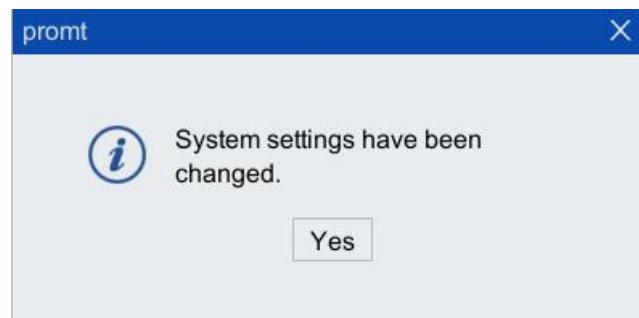

Figure 8-30 "System settings have been changed" dialog box
- Step2. After the setting is completed, click the <Apply> button, and the "System settings have been changed" "Prompt" box as shown in Figure 8-30 will pop up to complete the setting; if you click the <Refresh> button, it will return to the initial setting.